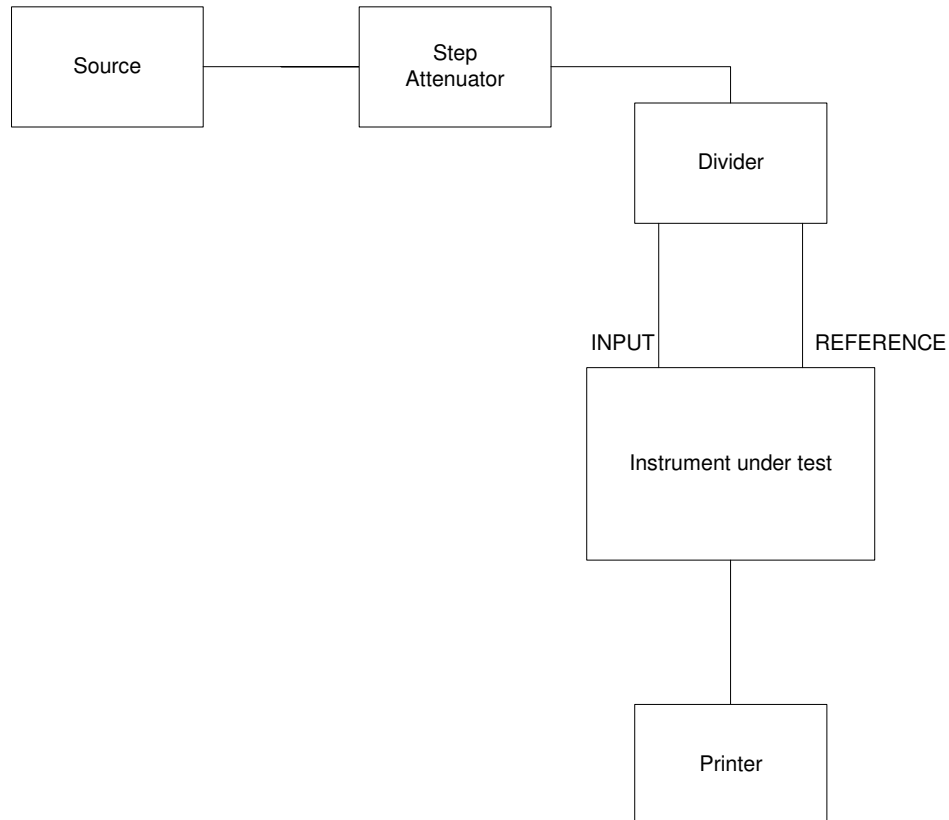

Figure 1: Tests 2, 3 and 5 Configuration
- Refer to Figure 1 for a pictorial representation of the set-up described in the following steps.
- Use the test configuration shown in Figure 1 during this test.
Note: Use the test configuration shown in Figure 1 during this test.